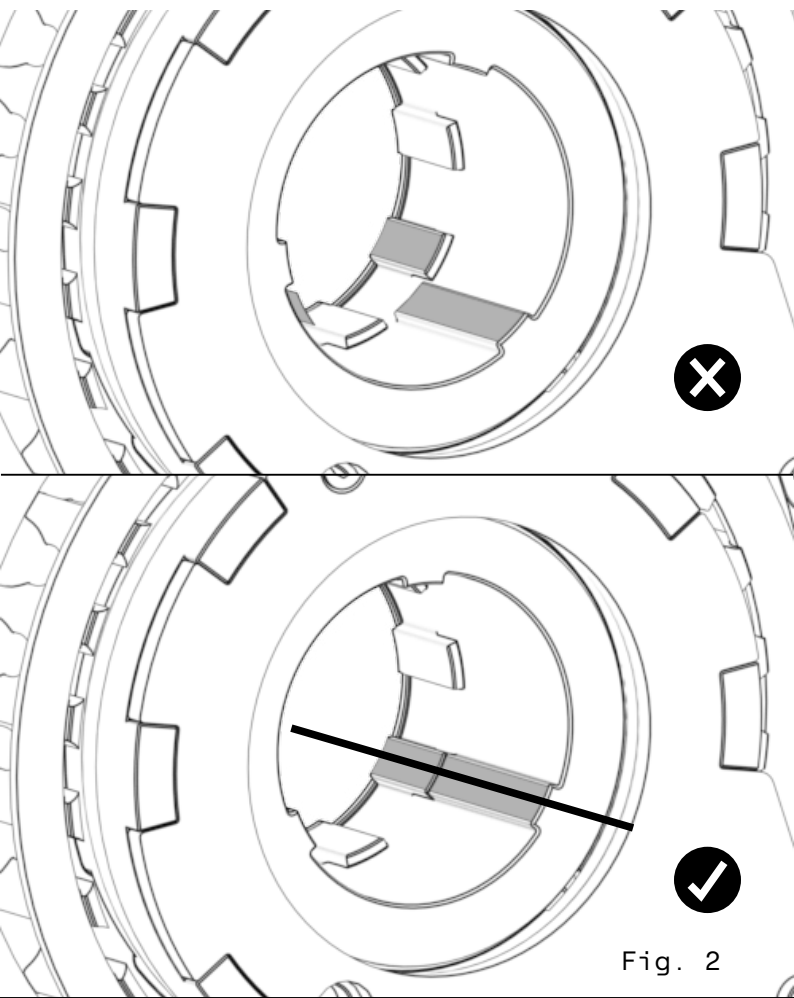

Fig. 2
- 2.2 Remove the transport lock (cardboard wedge) and ensure that the 9-spline interface is properly aligned in the H2 gearbox (Fig. 2)